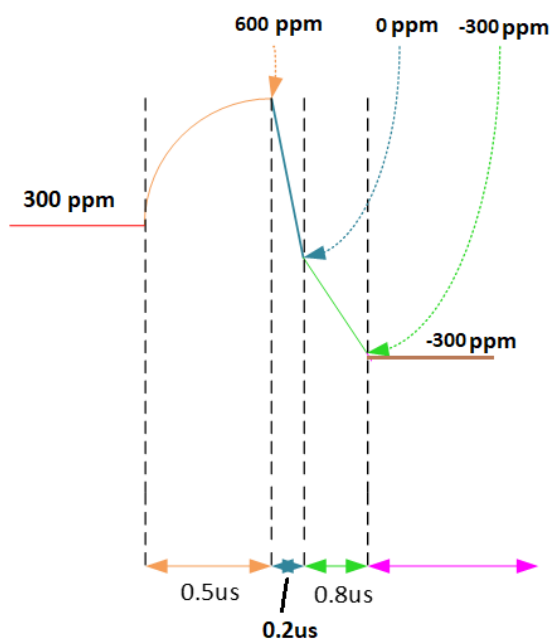

Figure 25. Frequency variation dynamics example
4. Construct the frequency variation dynamics as shown in Figure 25. Refer to USB4 2.0 Specification Table 3-29. Tolerance is $\pm 25\text{ppm}$ with respect to USB4 2.0 Specification targets